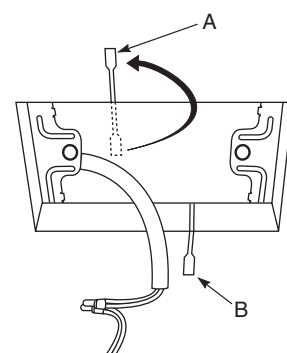
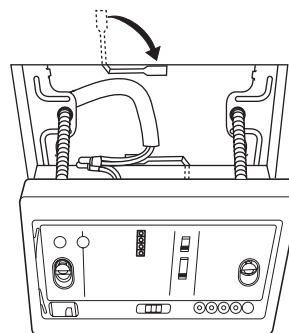

Fig. 1-104
Fig. 1-105
- (4) Fit securely into the ceiling material at sections (A) and (B) as shown in Fig. 1-104.
- (5) Connect the wire (2-wire core) from the signal receiving unit with the wire from the indoor unit. (See section on how to wire the receiving unit.) as shown in Fig. 1-104.
- (6) Use the supplied spacers to adjust for a thickness several inches more than the ceiling material and lightly fasten the receiving unit in place with the small screws (M4×1-9/16", 2 pcs.) supplied with the unit.
- (7) Tighten the machine screws after fitting sections (A) and (B) into the openings, in the gap between the signal receiving unit and ceiling surface as in Fig. 1-105. Do not apply strong force when tightening the screws. Excessive force might warp or damage the cover. When finished, the signal receiving unit should still be able to move slightly when pressed as shown in Fig. 1-105.
- (8) Reinstall the cover plate.